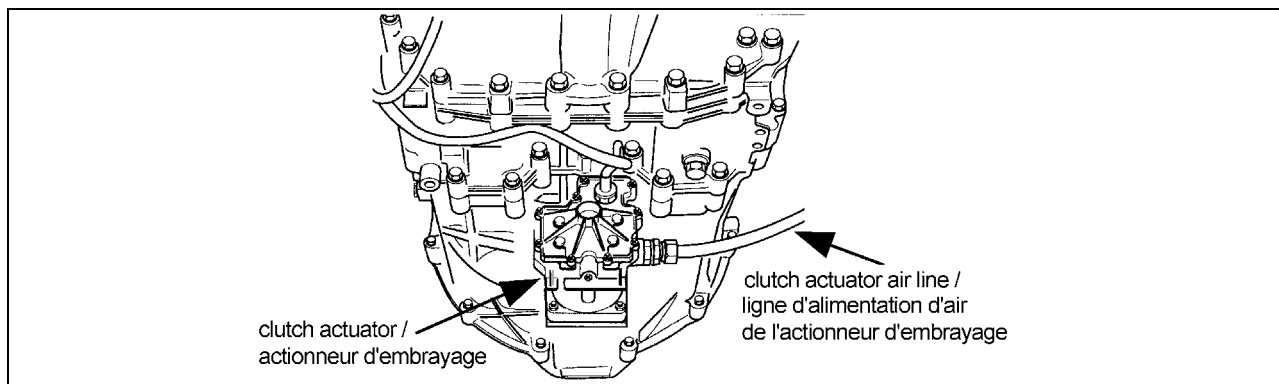

Figure 1: LOCATING THE CLUTCH ACTUATOR AND AIR LINE
1. Under the transmission, locate the clutch actuator and the air line (Figure 1).